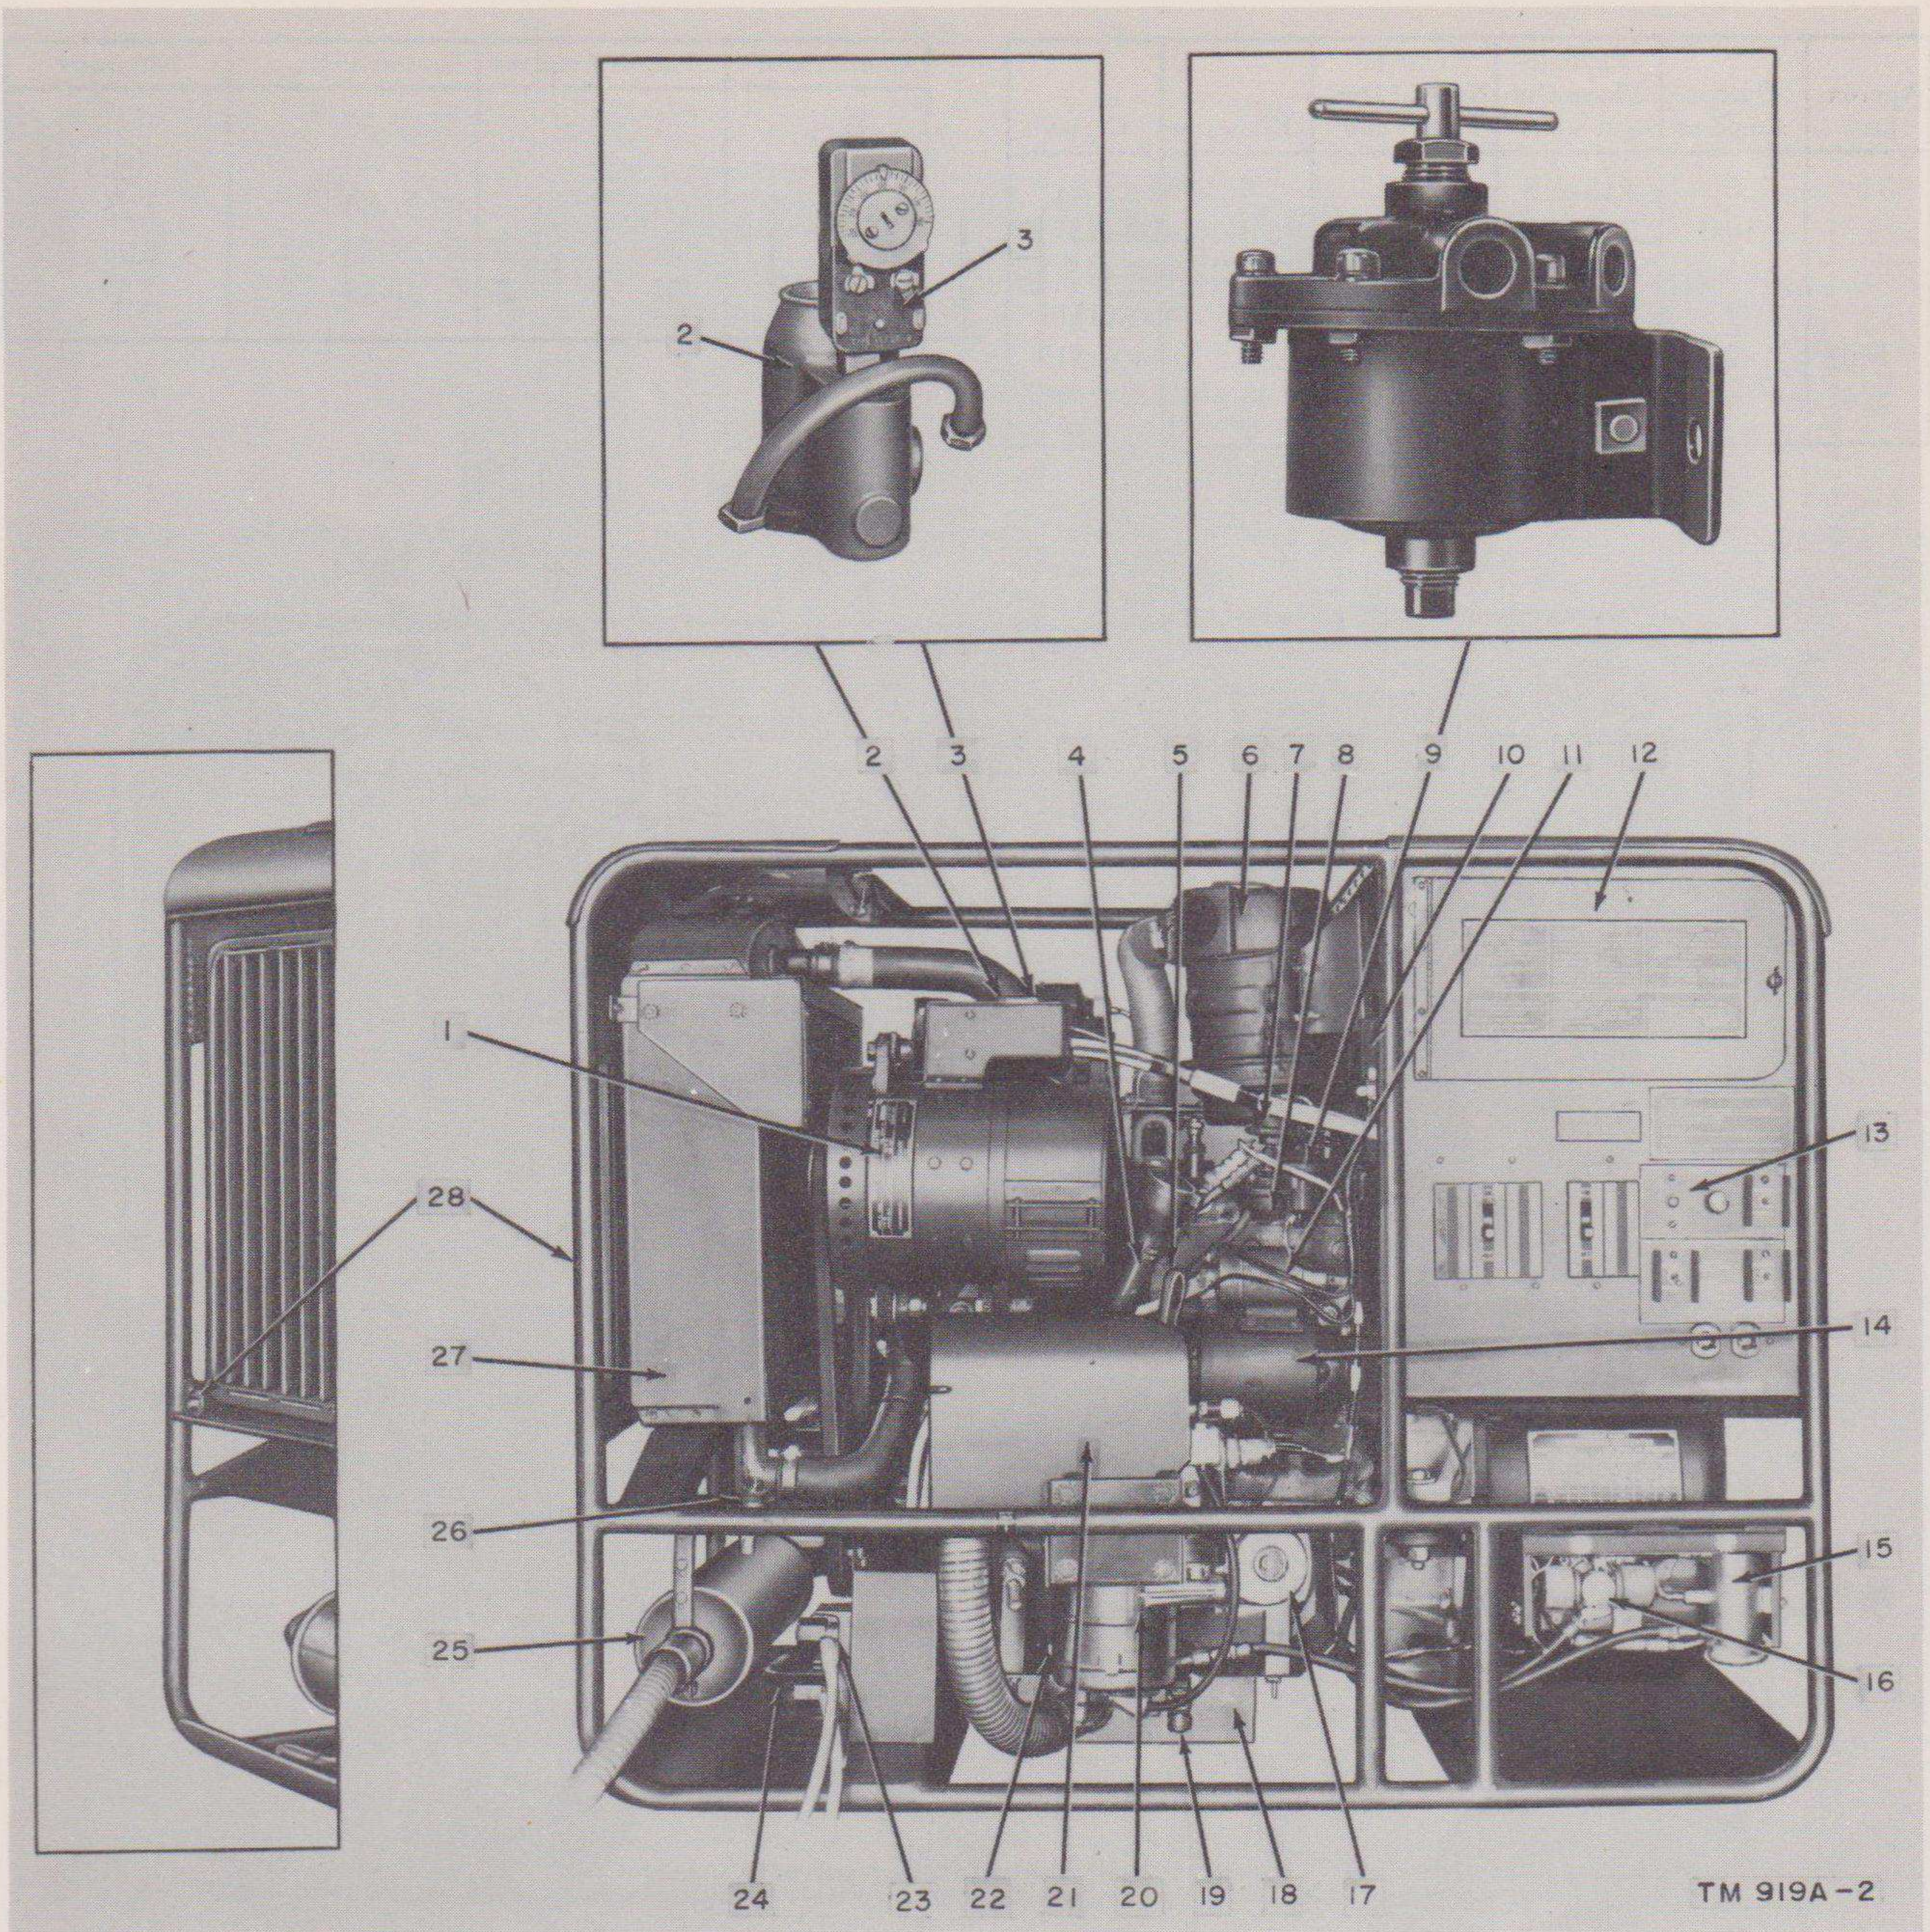
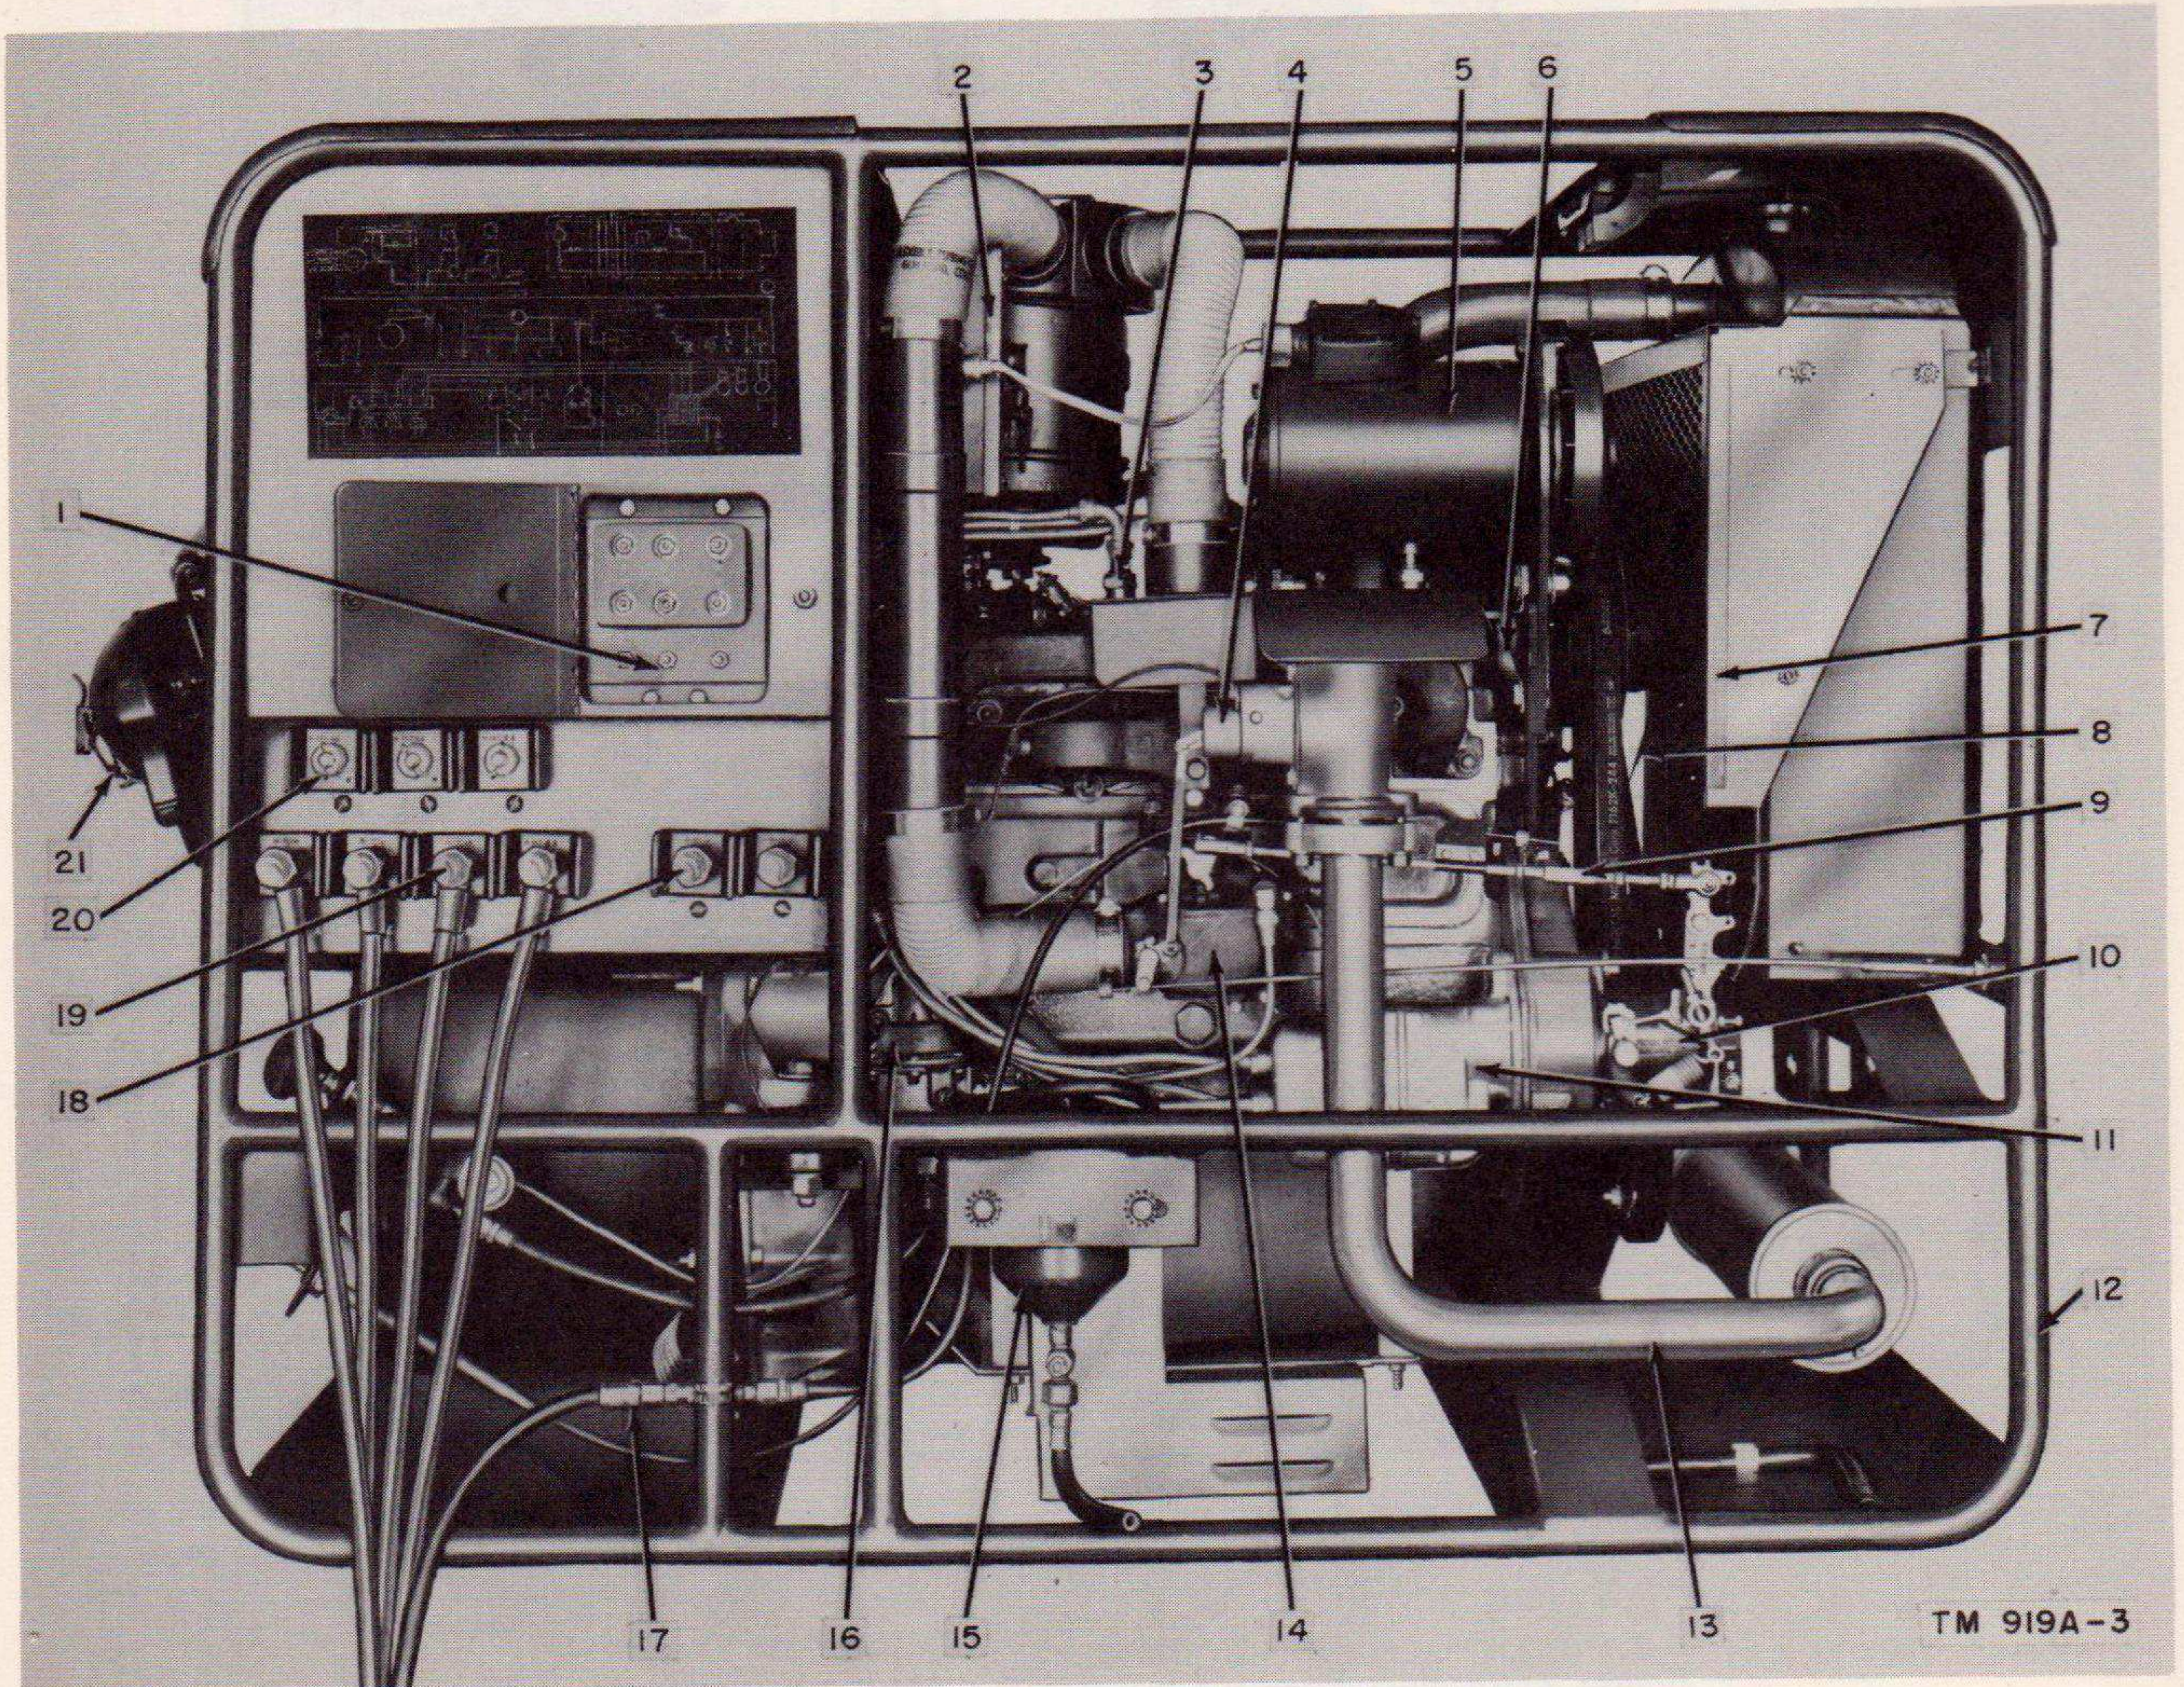

Figure 2. Gasoline Engine Generator Set PU-107A/U, left side.
Figure 3. Gasoline Engine Generator Set, PU-107A/U, right view.
*a. Engine.* The generator is driven by a conventional, L-head, four-stroke cycle, four-cylinder, liquid cooled, gasoline engine. Ignition is provided by a high-tension magneto (11, fig. 3) and self shielded spark plugs (3, fig. 3). A 15-quart, tubular-cell radiator (27, fig. 2), belt driven fan and water pump comprise the major elements of the cooling system. The engine is lubricated by a gear-type oil pump that delivers oil under pressure to the main bearings and connecting rod bearings. The fuel system consists of an up-draft carburetor (14, fig. 3), a diaphragm-type fuel pump (16, fig. 3), and a remote fuel line and fuel drum adapter. There is no fuel tank on the unit. The engine may be started by means of a hand crank or by a 24-volt electric starting system. Two 12-volt storage batteries, connected in series, are provided to supply power for the electric starting motor. A belt-driven, 24-volt dc generator (5, fig. 3) maintains the batteries in a charged condition.
*b. Winterization system.* A winterization system is provided to aid in starting the engine in low temperatures. The winterization unit consists of a fuel pump (15, fig. 2), fuel control valve (16, fig. 2), blower (17, fig. 2), heat exchanger pan (18, fig. 2), and shield (21, fig. 2). A switch, circuit breaker, and indicator lamp for control of the winterization system are mounted on the unit control panel.
*d. Dc power generator.* A separate, 28-volt dc generator (1, fig. 2) is mounted to one side of the engine and driven by a V-belt from the engine crankshaft. This generator, when operated at 4,500 rpm, will deliver 2.5 kw, 28 volts dc.
*f. Frame.* The frame structure (12, fig. 3) supports the entire generator set assembly and is comprised of two parts. The lower frame acts as a skid and also shock-mounts the engine and alternator. The upper frame mounts the instrument and control panels, the wye-delta change board, and terminal panel.